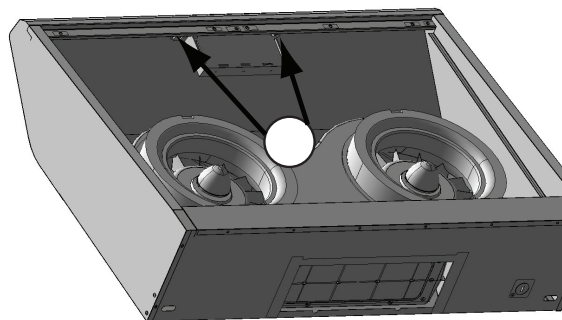

FIG. D5
3. Remove 2 screws securing PC board assembly to access PC board (FIG. D5).